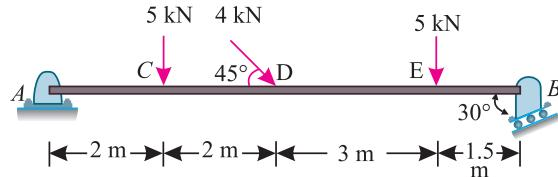

Fig. 12.21.
**Example 12.8.** A beam AB 8.5 m long is hinged at A and supported on rollers over a smooth surface inclined at  $30^\circ$  to the horizontal at B. The beam is loaded as shown in Fig. 12.21.